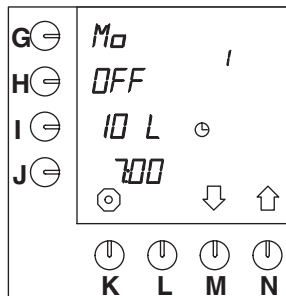

Fig. 14 Default pre-programmed setting
- Subsequently, the next pre-programmed time setting appears on the display (fig.14).
- After this the next time setting appears on the display (fig.14).